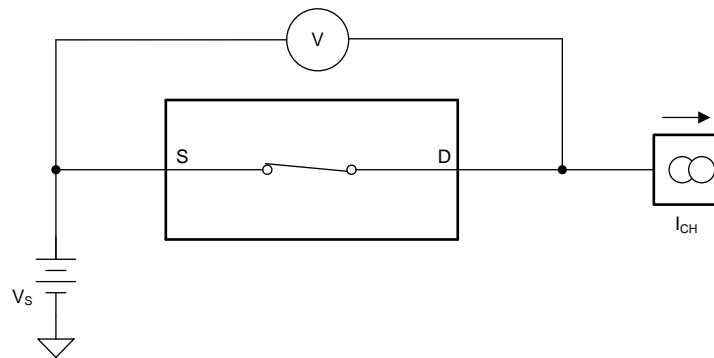

Figure 1. On-Resistance Measurement Setup
The on-resistance of the TMUX611x is the ohmic resistance across the source (Sx) and drain (Dx) pins of the device. The on-resistance varies with input voltage and supply voltage. The symbol R_{ON} is used to denote on-resistance. The measurement setup used to measure R_{ON} is shown in Figure 1. Voltage (V) and current (I_{CH}) are measured using this setup, and R_{ON} is computed as shown in Equation 1: